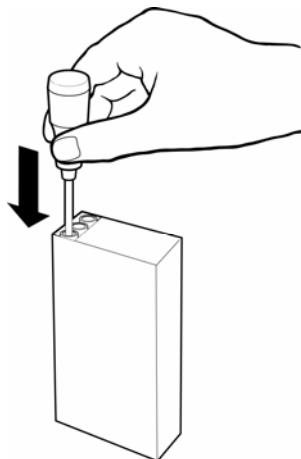

Figure 11: Loading the Probe Cover
- 3) Load a probe cover onto the probe by holding the probe collar with the thumb and forefinger, being careful not to hold or press the ejection button. Refer to Figure 11.